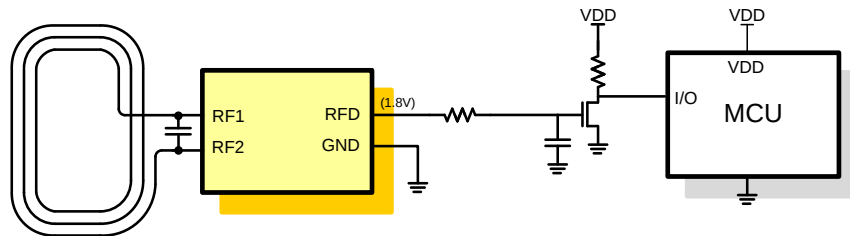

Figure 3: SIC43NT with RF detect pin operating in a 1.8V output mode
- RF field detection when I/O is set in a 1.8V mode (Figure 3)